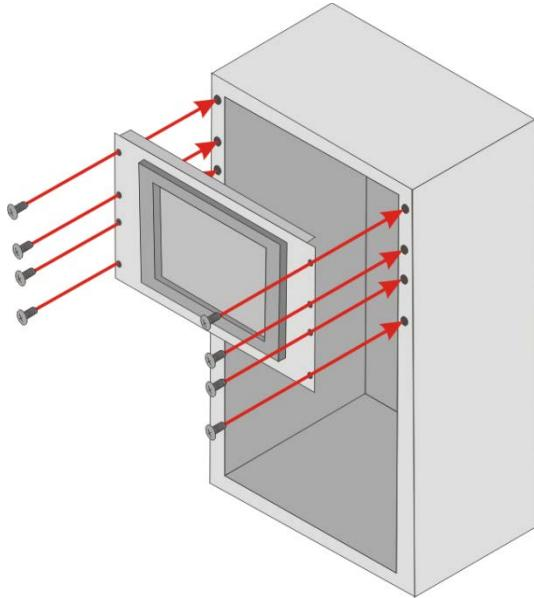

Figure 3-19: Install into a Rack/Cabinet
Step 6: Slide the panel PC with the attached rack/cabinet bracket into a rack or cabinet (Figure 3-19).
Step 7: Once the panel PC with the attached rack/cabinet bracket has been properly inserted into the rack or cabinet, secure the front of the rack/cabinet bracket to the front of the rack or cabinet (**Figure 3-19**).